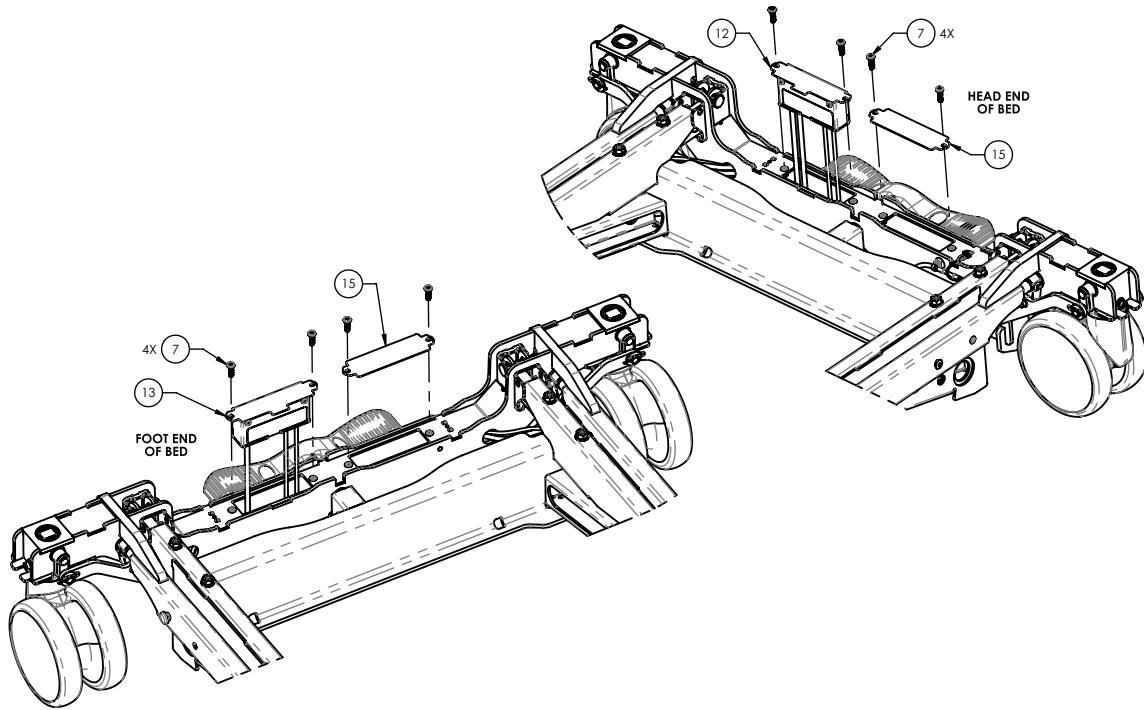

**Figure 34 – Scale board replacement**
5. Using a small flat head screwdriver, remove and save the four caster cover screw caps (6) (Figure 34).
6. Using a #2 Phillips screwdriver, remove and save the four screws (7) and washers (5) that secure the caster cover (8) to the base frame (Figure 34). Remove and save the caster cover.